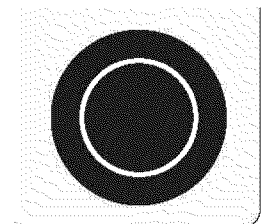

Fig. 4
Both the 30" and 36" cooktops are equipped with dual radiant surface element located as shown in Figs. 1 & 2. A touch key pad on the element controls is used to select one of the 2 positions of the element. Symbols and indicator lights on the control panel are used to indicate which coil of the dual radiant element will heat. The ● symbol indicates that only the INNER coil will heat (Fig. 3). The ◎ symbol indicates that both INNER and OUTER coils will heat (Fig. 4). You may switch from either coil setting at any time during cooking.
4. Select the INNER (Fig. 3) or INNER and OUTER (Fig. 4) to heat by touching the  key pad.
8. When cooking has been completed touch the  pad once to turn the element OFF and if no other surface element is used touch the  key pad to turn off the cooktop. Note: The **Hot Element (HE) message** will be showed on display for each element until the heating surface area has cooled sufficiently.